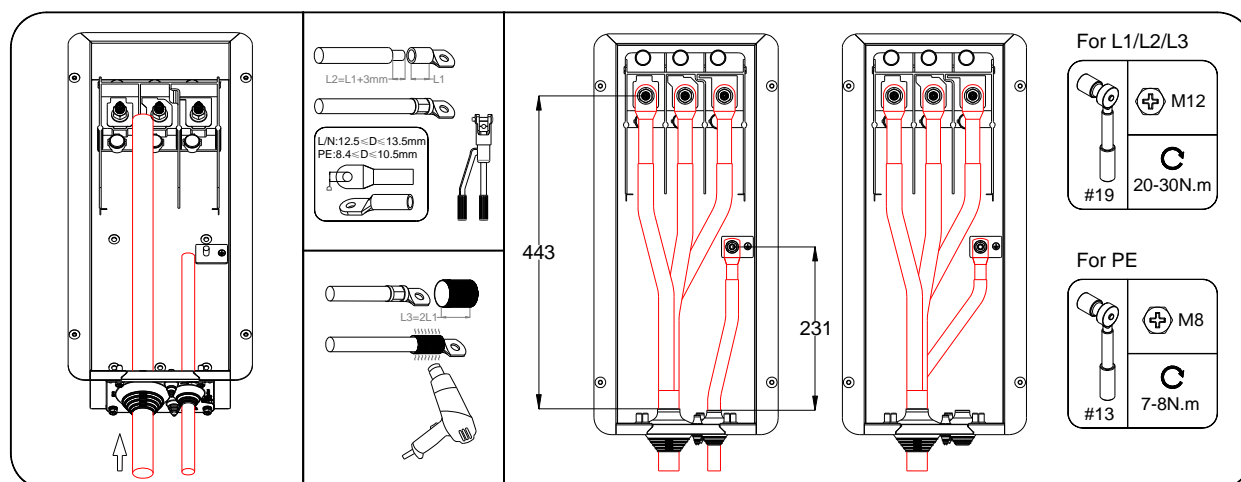

FIG 5-6 Install the AC Cable
Step 5: Pass the unstripped AC cable through the sealing plate, as shown in FIG 5-6.
Step 6: Peel off a certain length of cable insulation sheath and core wire insulation layer according to the distance between the terminal and the sealing plate in FIG 5-6.
Step 7: Process the cable cores: select suitable terminal blocks (recommended types DT or DTM) -> crimp terminals -> use heat shrink tubings, as FIG 5-6.
Step 8: Remove the nuts from the AC terminal block and the internal grounding point. Install the AC cable in the corresponding position, ensuring a tight connection, as shown in FIG 5-6.